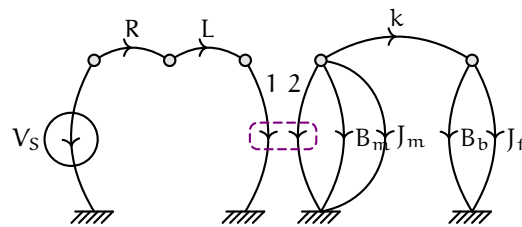

Figure exe.2: a linear graph model of the electromechanical system.
Consider the linear graph model of a motor coupled to a rotational mechanical system shown in Fig. exe.2. This is similar to the model from the Lec. 04.4 emech.real, but includes the flexibility of the shaft coupler. An ideal voltage source drives the motor—modeled as an ideal transducer with armature resistance R and inductance L , given by the manufacturer in Table real.1. The ideal transducer's rotational mechanical side (2) is connected to a moment of inertia J_m modeling the rotor inertia and damping B_b modeling the internal motor damping, both values given in the motor specifications. Take $B_b = B_m$ and $J_f = 0.324 \cdot 10^{-3} \text{ kg}\cdot\text{m}^2$. Assume the shaft coupling has a torsional stiffness of $k = 100 \text{ N}\cdot\text{m}/\text{rad}$.